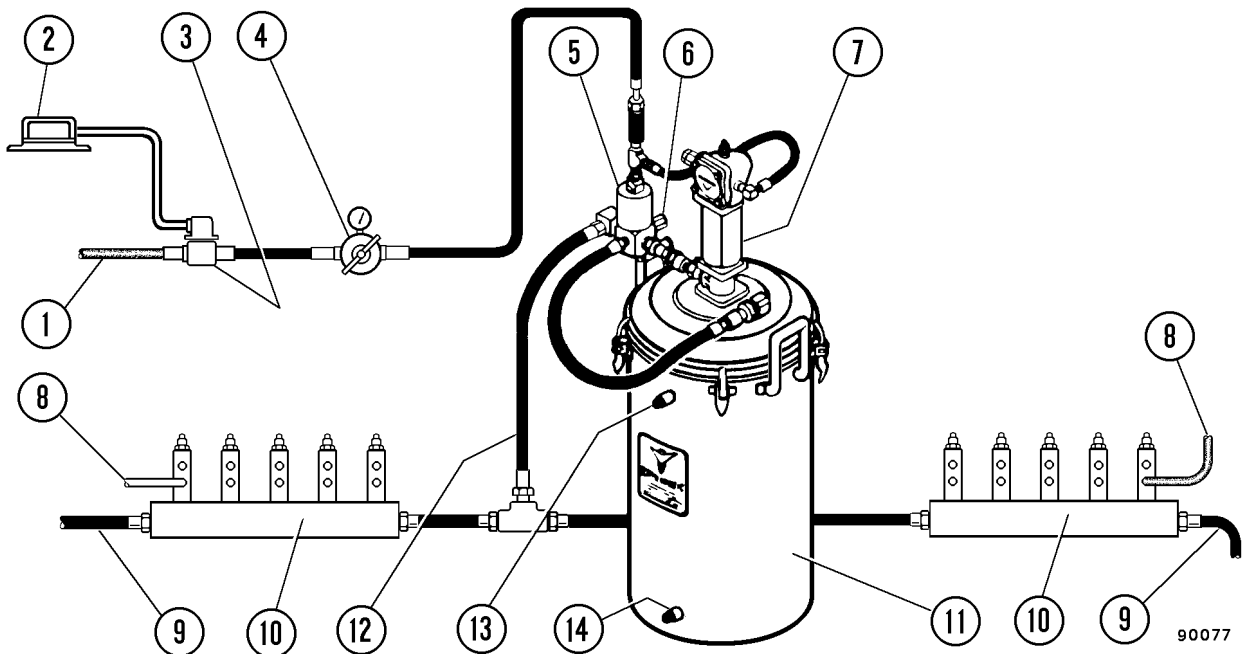

FIGURE 4-1. TYPICAL AUTOMATIC LUBRICATION SYSTEM
The automatic lubrication system (Figure 4-1) is controlled by an electric timer and an electrically operated solenoid valve. During truck operation, the timer periodically operates a switch which energizes the solenoid air valve. As the solenoid air valve opens, regulated air enters the pump air motor, and the pump begins to operate, delivering lubricant through the supply lines to each injector. At the same time, as regulated air is applied to the air motor, regulated air is applied to the vent valve which keeps the vent valve closed until the 3-way solenoid air valve is deenergized.
Figure 4-1 shows input air supply to the pump going through the solenoid air valve, then through an air regulator to the air powered pump. A branch line of regulated air is routed directly to the vent valve.
1. Remove 0.50 in. (1.27 cm) pipe plug (13, Figure 4-1) from upper portion of lubricant reservoir. This will prevent damage to reservoir by allowing air to escape as reservoir is being filled.
2. Clean grease coupler (14) on lower portion of reservoir.
3. Attach supply hose from external fill source to coupler (14).
4. Fill reservoir with approximately 60 lbs. (27.24 kg) of grease. When reservoir is filled, grease will appear at upper pipe plug hole (13).
5. Remove supply hose from grease coupler (14). Remove excess grease from coupler. Install pipe plug (13) and tighten to standard torque.